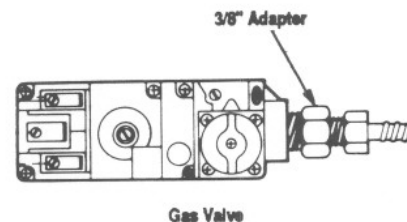

Figure 10
Step 10. Remove the 3/8" adapter fitting from the flex connector and attach the adapter to the gas control valve using a wrench and pipe joint compound. Tighten securely (Figure 10).
Step 11. Carefully bend and shape the flex gas connector so that a connection can be made to the adapter just mounted on the gas valve. Caution should be used so as not to kink the gas connection (Figure 10).